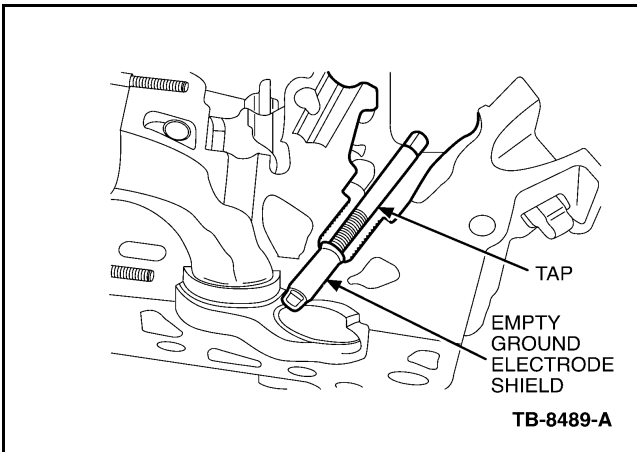

Figure 1 - Article 08-1-9
- a. Mode 1: The ground electrode shield is left behind as an empty shell. (Figure 1)